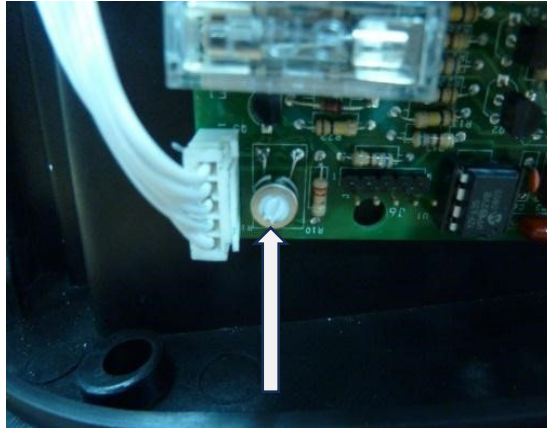

Fig. 3
2. **The dryer runs continuously** – decrease the sensitivity of the activation sensor by turning the white potentiometer on the board located inside the main body of the dryer (see Fig. 3 below) anti clockwise with a pot adjuster/ small screwdriver. Adjust to suit the level of sensitivity required.